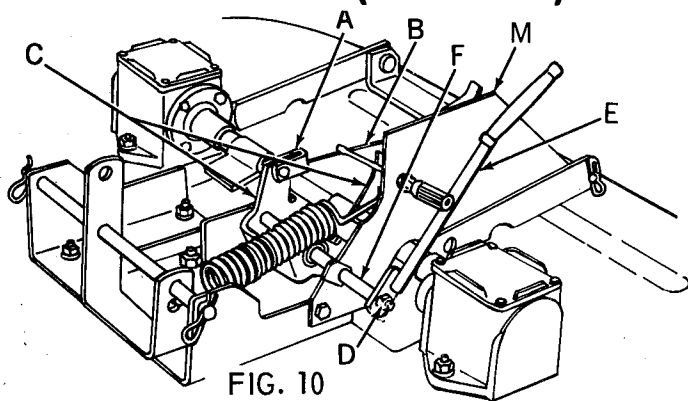
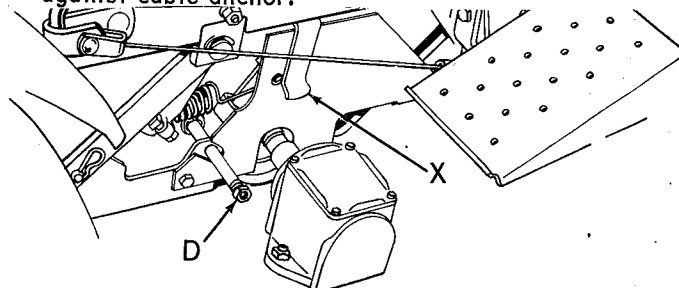

FIG. 10
FIG. 18
1. Refer to Fig. 10. Assemble clevis (A), on cable (B), to idler bracket (C), with rivet pin, and cotter pin provided.
2. Remove nut (D) from end of control arm assembly. Slip blade clutch handle (E) found in plastic bag with decal on control arm assembly (F) and replace nut (D).
4. Refer to Fig. 10. Rotate blade clutch handle (E) forward. Lock in that position, by inserting screw driver or similar tool, back of handle (E), through hole in pulley guard (M), and back of idler bracket (C) as shown.
12. Refer to Fig. 18. Rotate blade clutch handle (E) forward, and remove screwdriver or similar tool, which was holding idler bracket forward. Remove nut (D), Fig. 18 and blade clutch handle (E), Fig. 10 from control arm assembly. Replace nut on shaft to protect threads. Save blade clutch handle. This handle will be used as mentioned above to hold idler bracket while removing or assembling mower to tractor.
13. Refer to Fig. 18. Lower mower by depressing button on top of lift lever, and moving lever forward. Assemble pulley guard guide (X) to tractor frame as shown. Secure with round head mach. screw (head to inside), lockwasher, and hex nut provided. Tighten nut securely.
1. If tractor is equipped with clutch lever (mower) mounted on tractor. Refer to Figures 10, Page 5. Use steps 2 and 4. This will lock idler arm forward, so that mower can be easily removed.